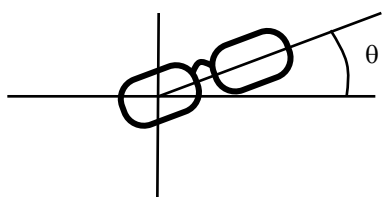

**FIG. 4 Viewing Angle**
4. Viewing angle is the angle at which the contrast ratio is greater than 10. The angles are determined for the horizontal or x axis and the vertical or y axis with respect to the z axis which is normal to the LCD module surface. For more information, see the FIG. 4.